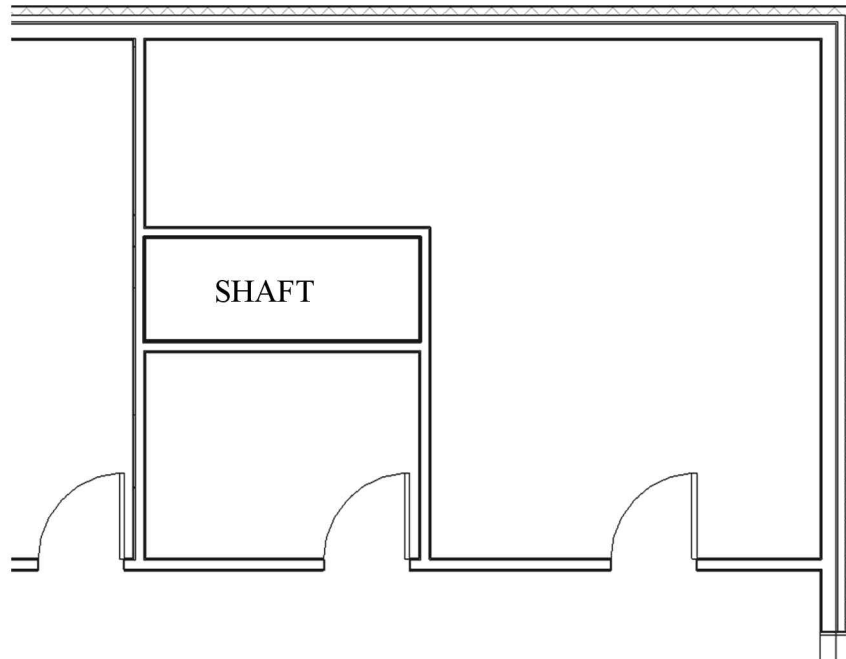

FIGURE 6-3.10 Level 2 (North-East corner): Floor boundary at shaft
24. While still in *Sketch* mode for the Level 2 floor, pan to the right to show the area in Figure 6-3.10.